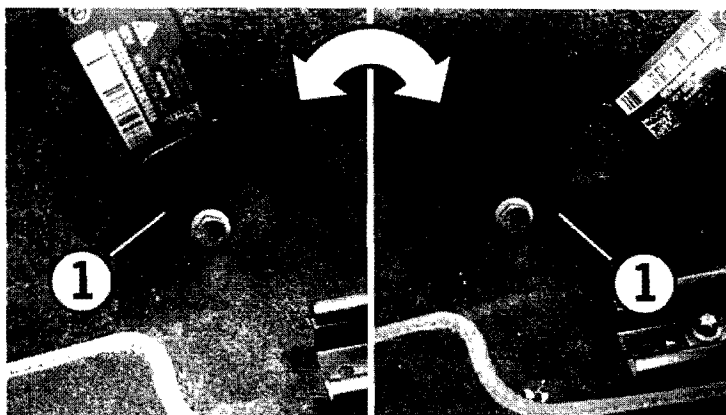

Figure 3
- 3 Check freedom of \Rightarrow Figure 3 -Pos. 1- movement of seat belt end fitting.
Twist the seat belt end fitting \Rightarrow Figure 3 -Pos. 1- to the left and right \Rightarrow Figure 3 -Pfeil-. The seat belt end fitting must be able to rotate freely around the fastening screw with a **minimum application of force**.